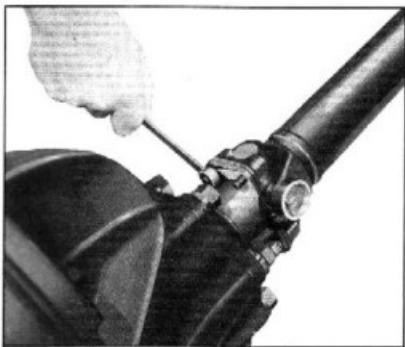

Fig. 21—Removing Rear Universal Joint "U" Bolts
2. Split the rear universal joint by removing the two trunnion bearing "U" bolts from the rear yoke as shown in Fig. 21. The bearings can be left on the trunnion and held in place with tape. This will prevent dirt getting into the bearings as well as saving considerable time in reassembly.